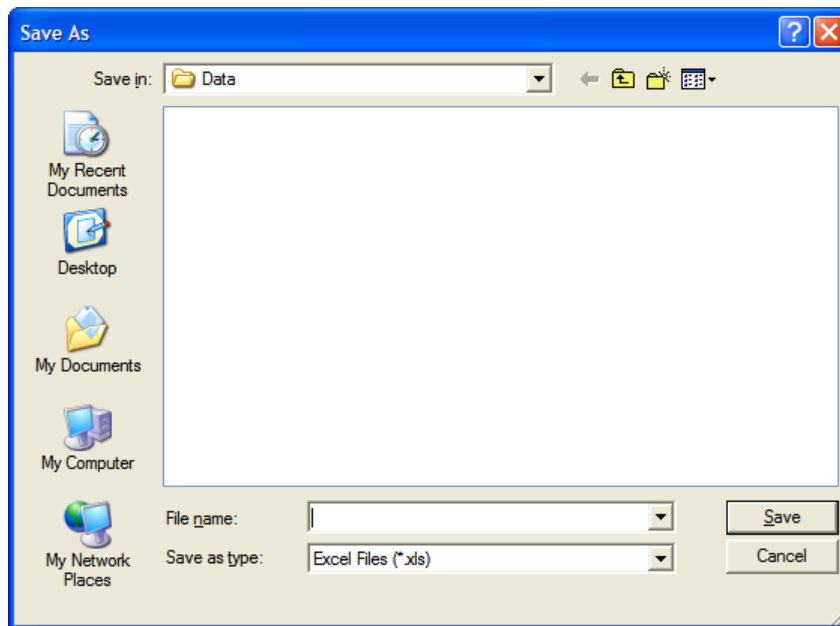

Figure 9-36 Selecting Excel File
5. Click the **Export Selection** button to export the highlighted selection to an Excel file. You will be asked if you want to add to the previously exported data. If this selection is from the same summary that was previously exported, answer Yes, and the data will be added. Answering No will create a new Excel file. In either case, select the Excel file as in Figure 9-36 Selecting Excel File.